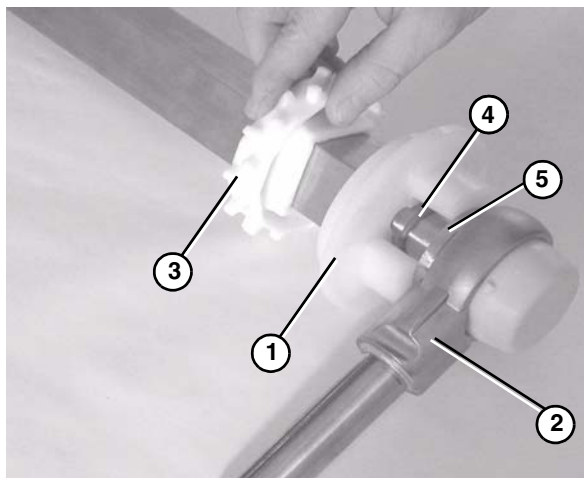

Figure 74
1. Attach a flanged puck (**Figure 74, item 1**), an O-ring (**Figure 74, item 4**), a washer (**Figure 74, item 5**) and a bearing shaft assembly (**Figure 74, item 2**) to the supporter end of the drive spindle.
2. Slide the first sprocket (**Figure 74, item 3**) onto the drive spindle.